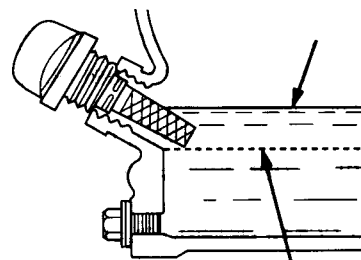

Figure 5. Engine Oil Dipstick (Oil Level)
4. If the oil level is low (Figure 5), fill to the edge of the oil filler hole with the recommended oil type (Table 5). Maximum oil capacity is 1.16 quarts (1.1 liters)